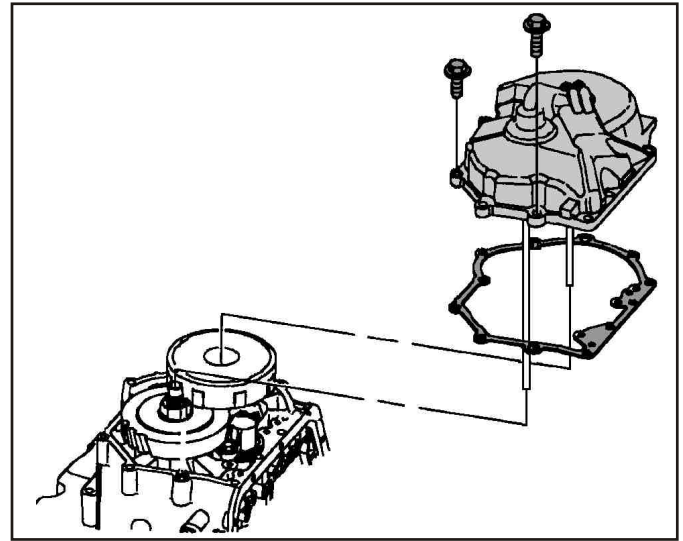

Figure 208
41. Install a new end cover gasket (See Figure 208).
42. Install the end cover by inserting the tubes into the end of the shaft. If cover does not seat, turn the shafts to help align the tubes with the bushings in the shafts (See Figure 208).